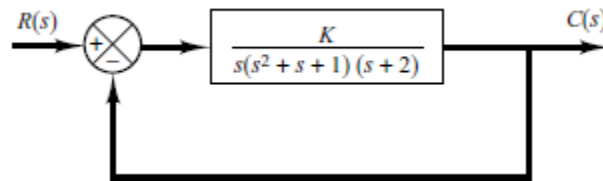

Figure 7
- 5C. Consider the block diagram of the system shown in the figure 7. Determine the range of K for which the system is stable (02)